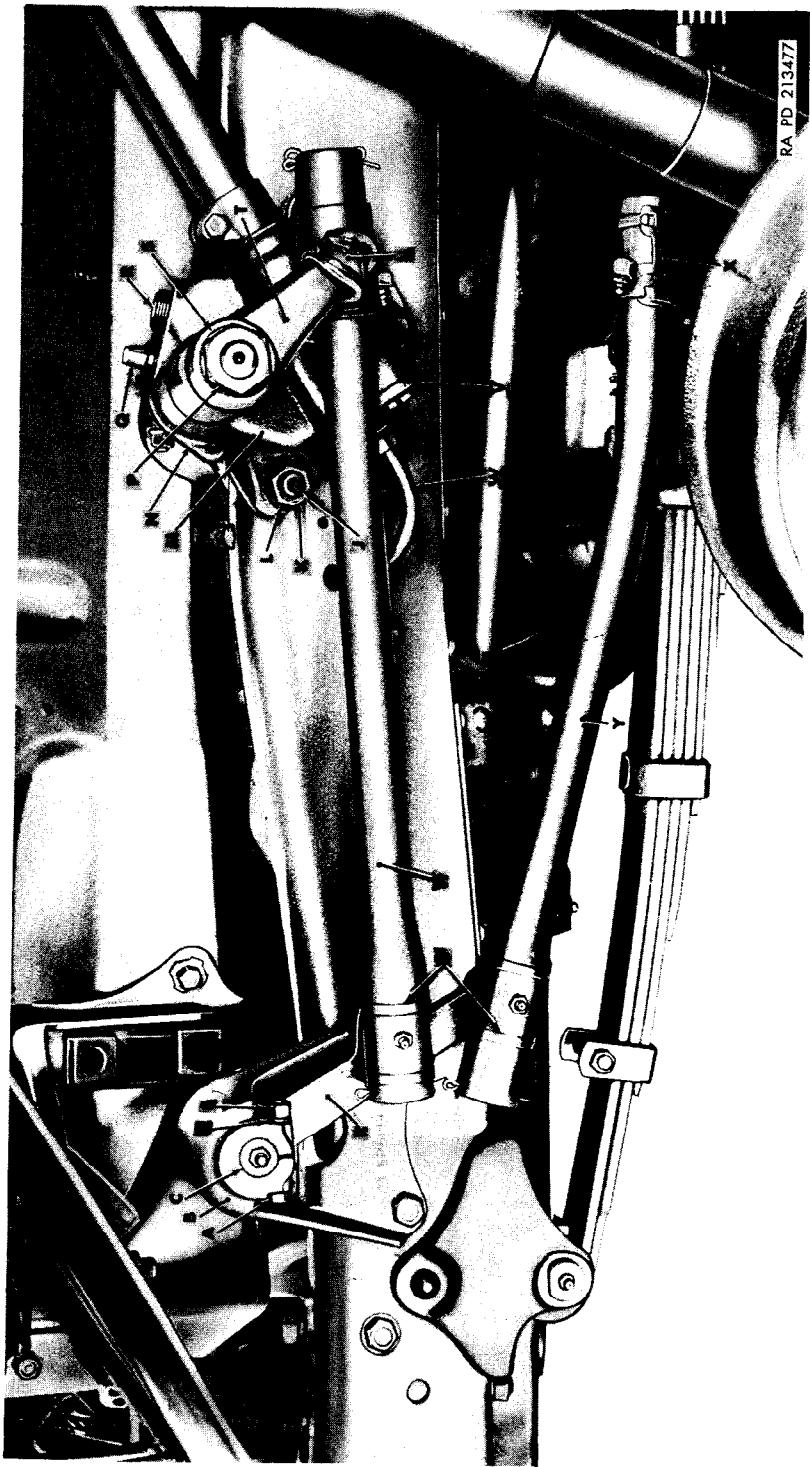

Figure 195. Steering gear and controls.
- (1) Disconnect the upper drag link from the pitman arm (par. 235) (T, fig. 195).
- (2) Turn the steering wheel back and forth, and note whether it turns freely throughout the full range. If the wheel does not turn freely, check the position of the steering gear at the instrument panel ((3) and (4) below).